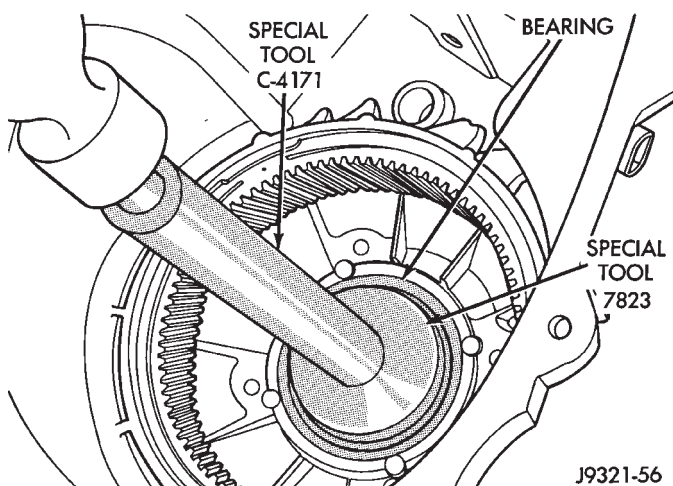

Fig. 56 Removing Front Bearing
(1) Remove old bearing with Tool Handle C-4171 and Bearing Driver 7823 (Fig. 56). Drive bearing out from case interior as shown.